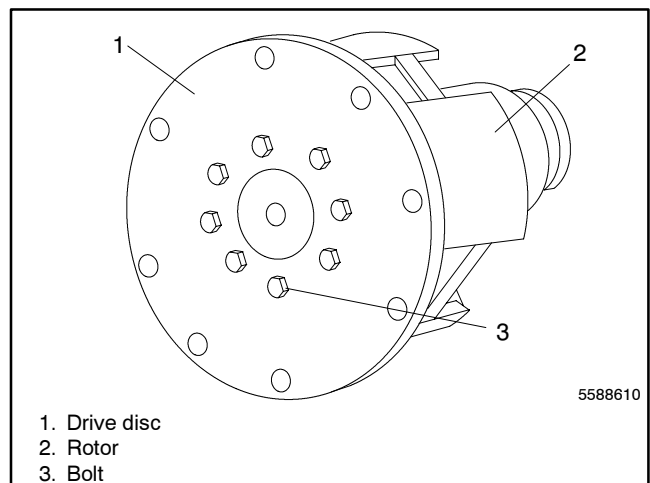

Figure 9-8 Drive Disc
24. Clamp the rotor in a soft-jaw vise. Remove the eight bolts and remove the drive disc assembly from the rotor. See Figure 9-8.
1. Clamp the rotor in a soft-jaw vise. Install the drive disc on the rotor with disc studs facing the rotor. Tighten the eight bolts to 40 Nm (30 ft. lbs.). See Figure 9-8.